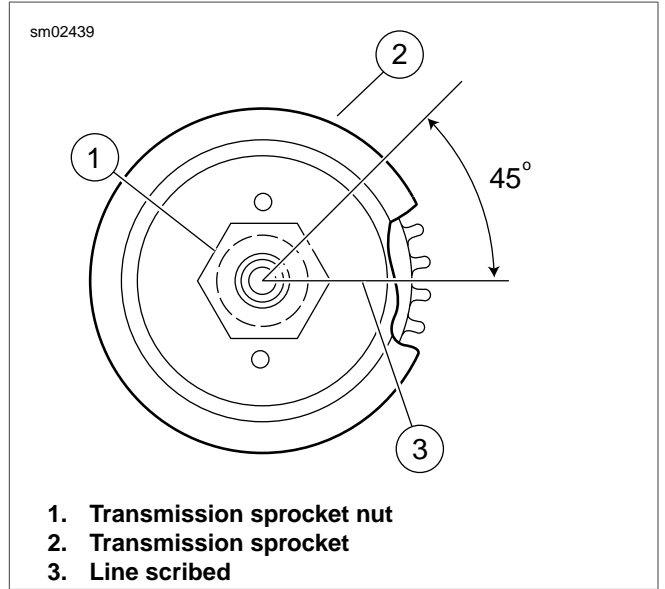

Figure 5-42. Transmission Sprocket Nut Final Tightening
- See Figure 5-42. Scribe a line (3) on the transmission sprocket nut (1). Continue the line on the transmission sprocket (2) as shown.